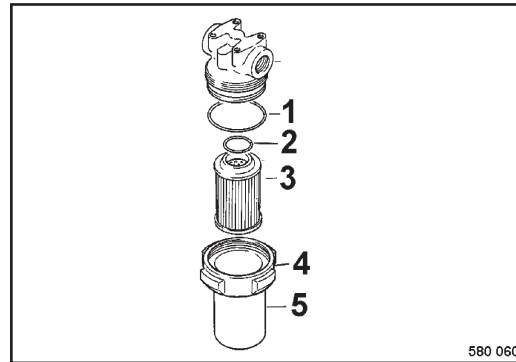

Fig. 155
- Unscrew the cap nut 4 (Fig. 155) and take the filter bowl (5) with the filter element (3) off.